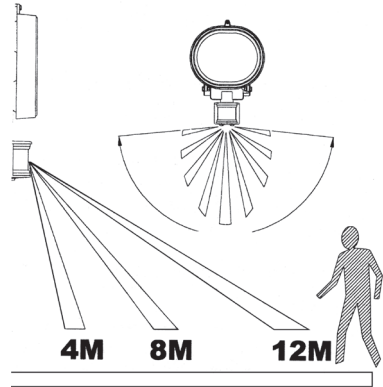

Fig.1A
- The best height to mount the light is 1.8 – 2.5 m above the detection zone (Fig. 1A).